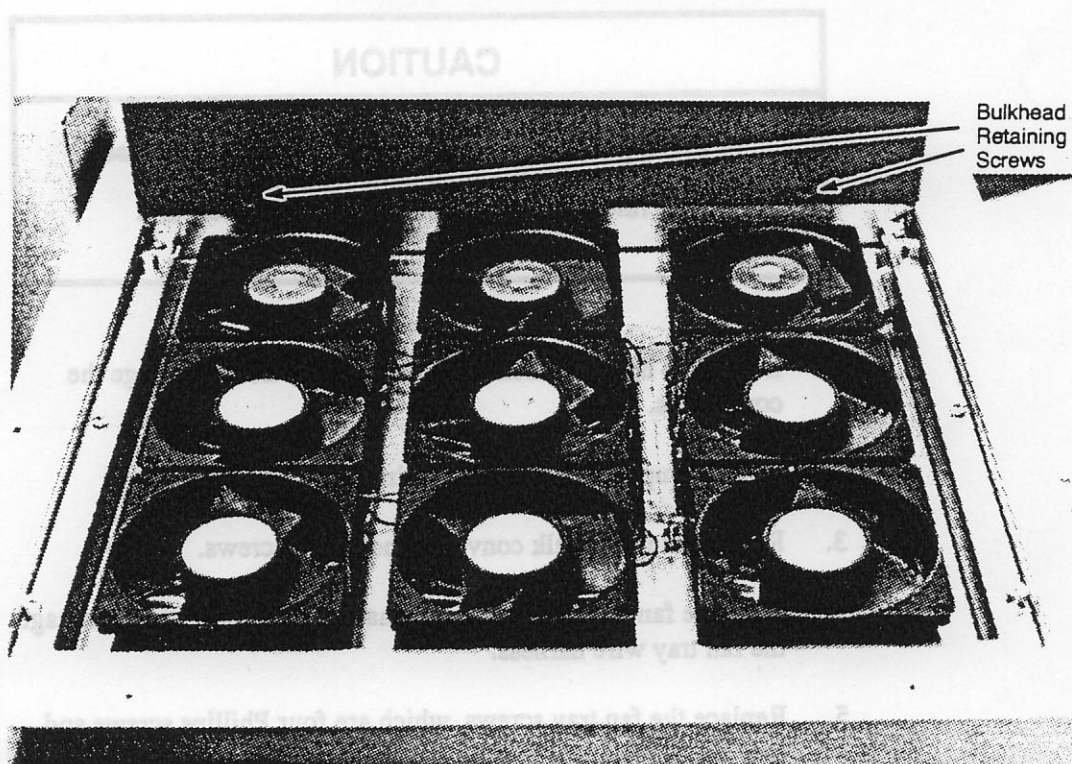

Figure 7-24. Bulkhead Retaining Screws
11. Remove the four bulk converter mounting screws after the top fan tray perforated covers have been removed. Refer to Figure 7-24.